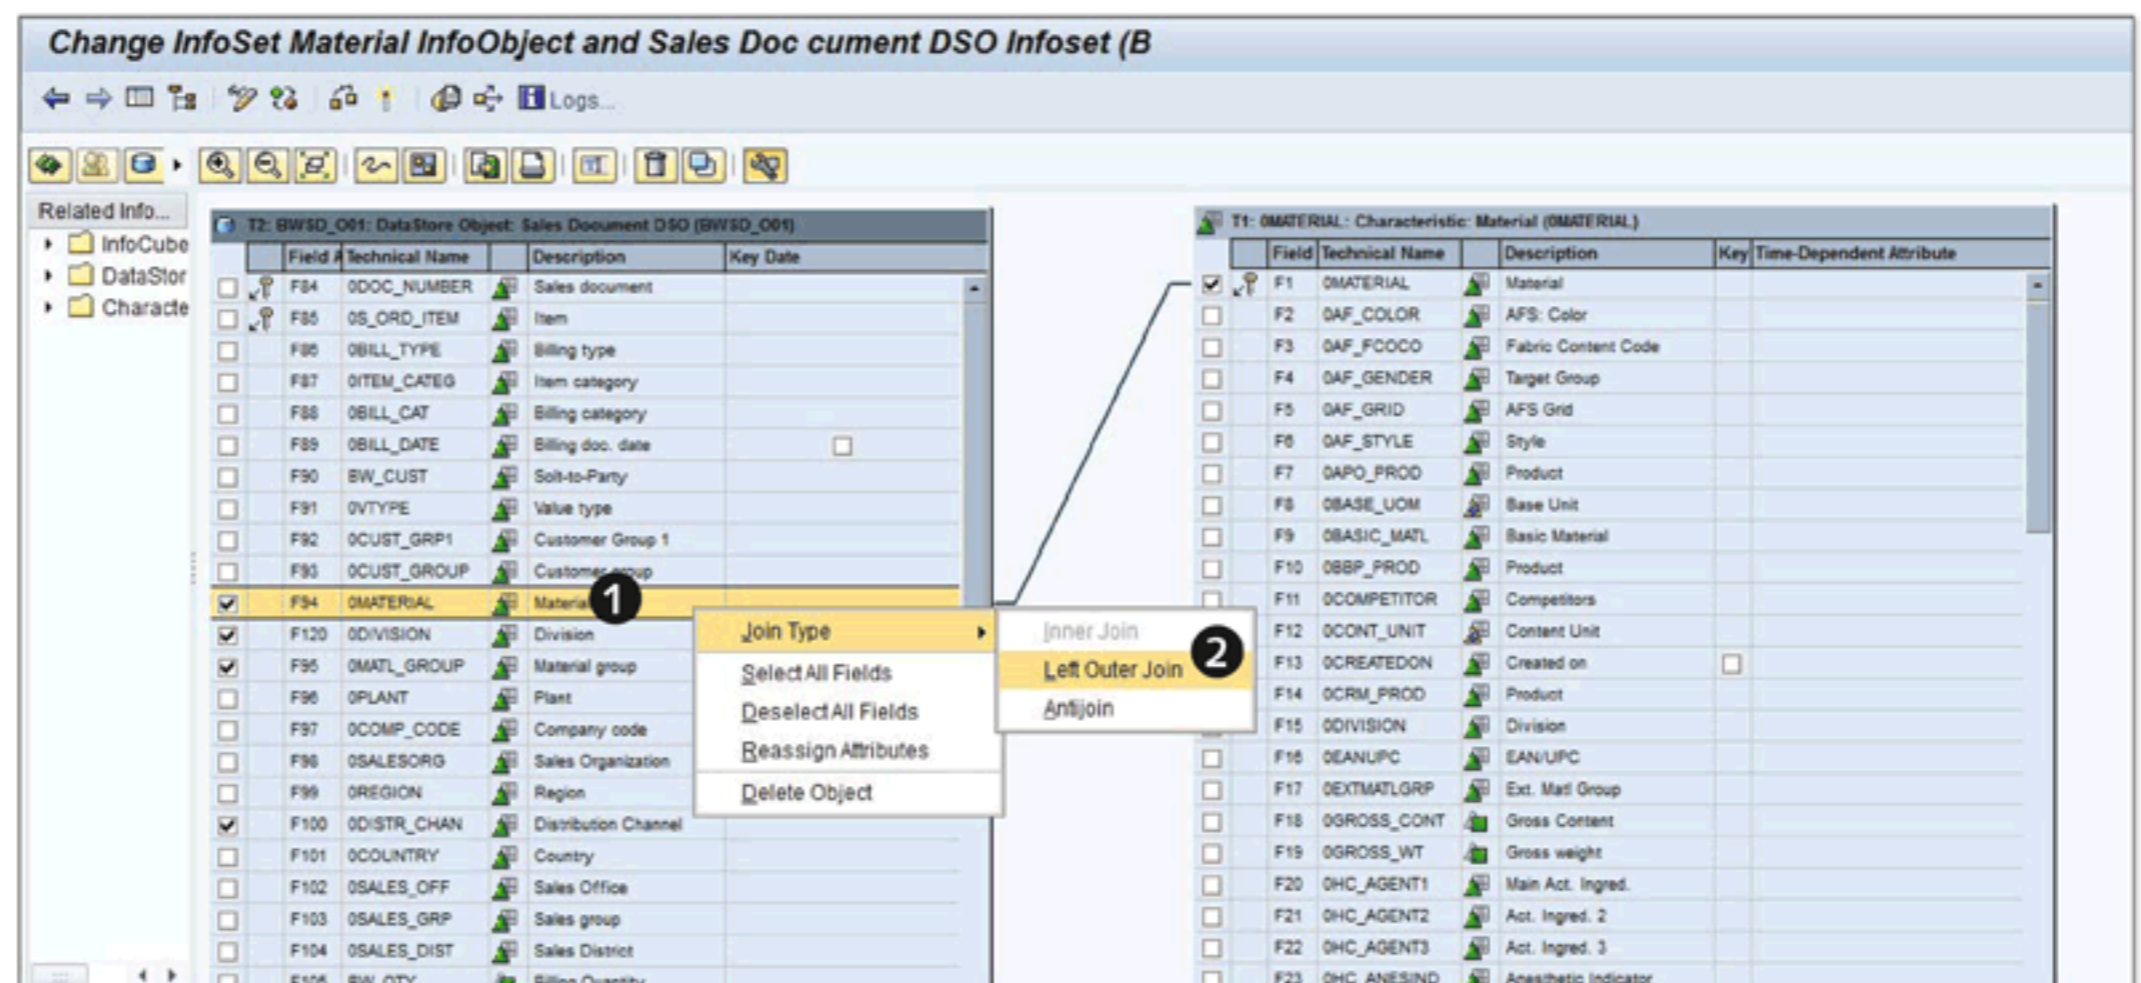

Figure 6.16 Selecting the Left Outer Join option
As we have stated previously, the join selected between two InfoProviders included in an InfoSet definition is an inner join by default. However, you can change that to a left outer join if required. Select the InfoProvider T2, and open the context menu, as shown in ❶ of Figure 6.16. Click on the LEFT OUTER JOIN option (❷).